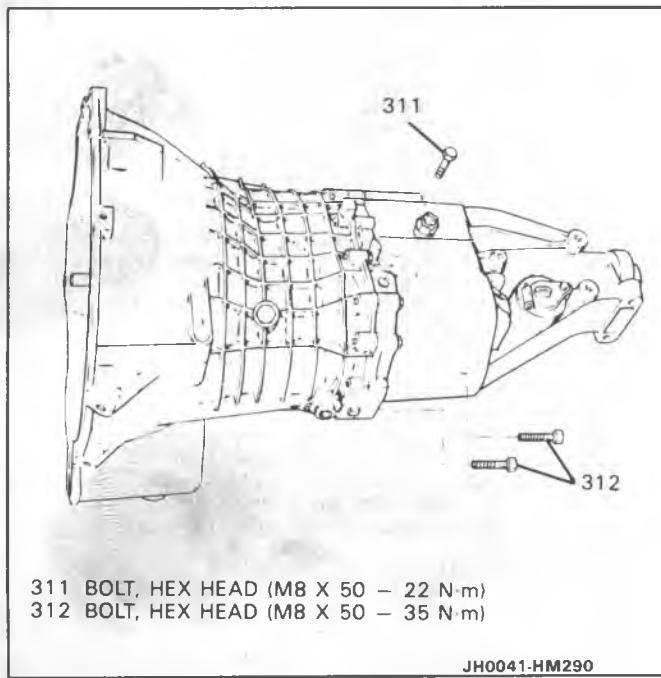

Figure 3 Removing Bolts for Special Tools
1. Idler shaft support bolt (311) and bottom two bolts (312) (Figure 3).